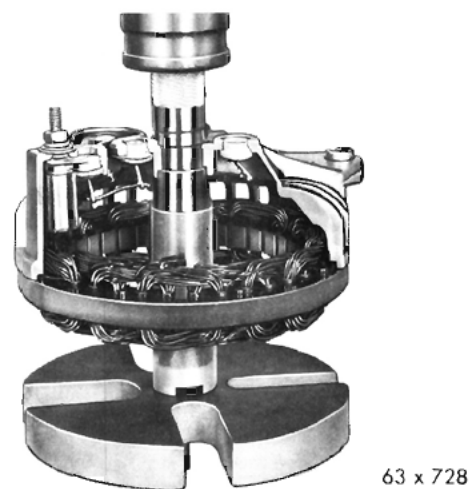

Fig. 37—Installing the Rectifier End Shield Bearings
(5) After soldering, the stator leads must be pushed down into the slots that are cast into the end shield and cemented with Cement Part Number 2299314 to protect the leads against possible interference with the rotor fans. Test each replacement rectifier to make certain the rectifier was not damaged by the soldering or pressing operations.
(6) Support the end shield on Tool C-3925 so that the notches in the support tool will clean the raised section of the heat sink and press the bearing into position with Tool SP-3381 (Fig. 37).
(7) Insert the drive end bearing in the drive end shield and install the bearing retainer plate to hold the bearing in place.
(8) Position the bearing and drive end shield on